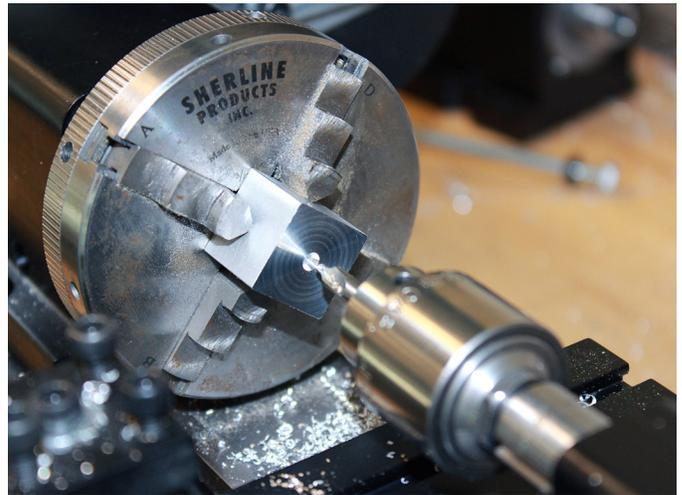

FIGURE 2—Center drilling the first side.
1. Center drill and drill the  $\frac{1}{8}$ " hole through the part from three sides. (See Figures 2 and 3.)